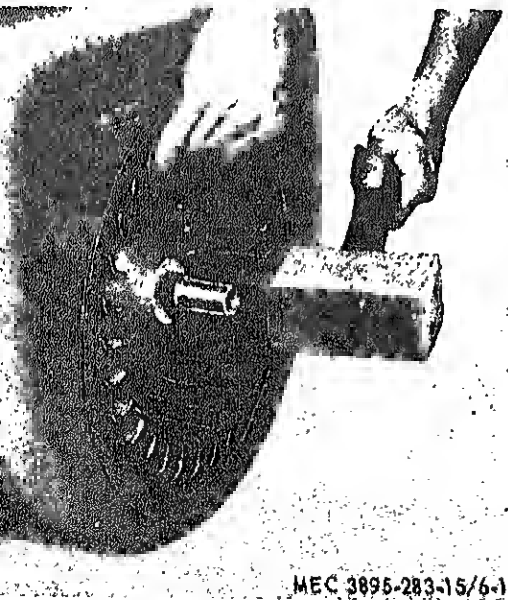

Figure 6-1. Flywheel Removal.
a. Removal (fig. 6-1).
(1) After the flywheel screen has been removed, drive out the starting crank pin in the crankshaft and remove the flywheel nut and washer.
(2) The flywheel is mounted to a taper on the crankshaft. Take a firm hold on the fly-